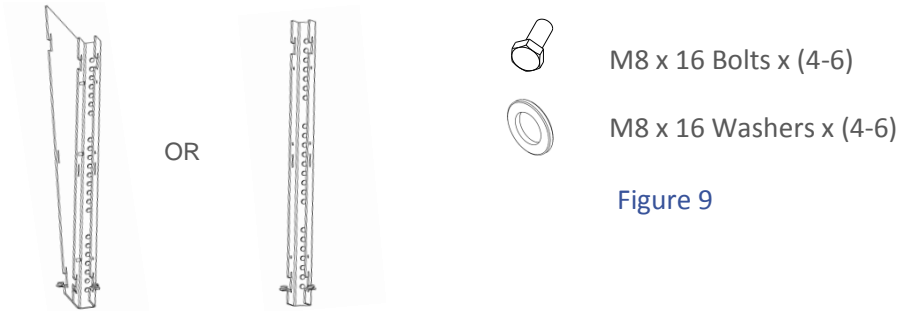

Figure 9
STEP 15: Check all apparatus for the installation is present and correct (Figure 9) – Depending on your setup you will have either **(3)** flat or **(2)** 15 degree wall brackets.